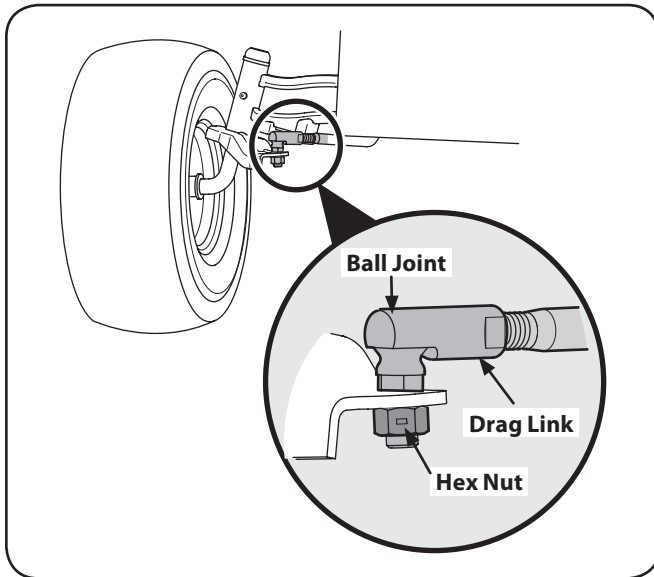

Figure 6-6
1. Remove the hex nut below the of ball joint. See Figure 6-6.